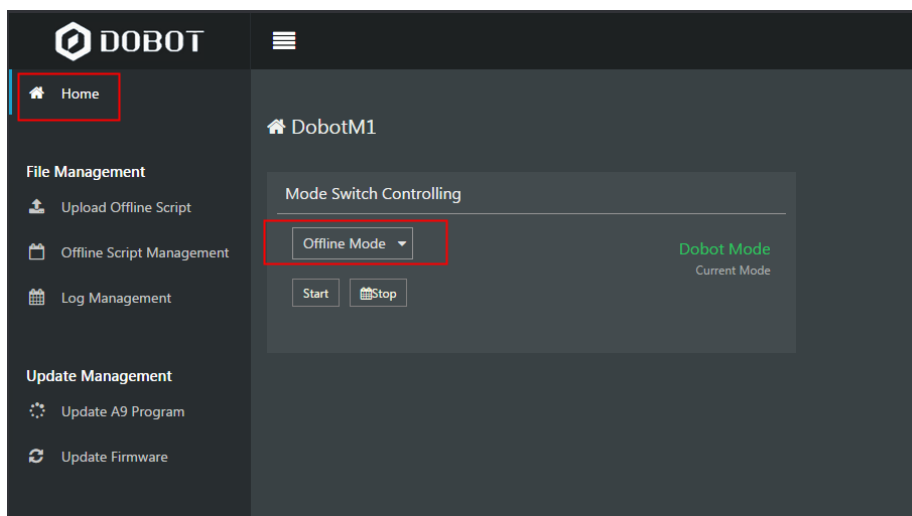

Figure 6.61 Mode switch
4. Select **Offline Mode** from the drop-down list on the **Mode Switch Controlling** pane of the **Home** page, and click **Start** to make Dobot M1 in the **Offline Mode** status, as shown in Figure 6.61.